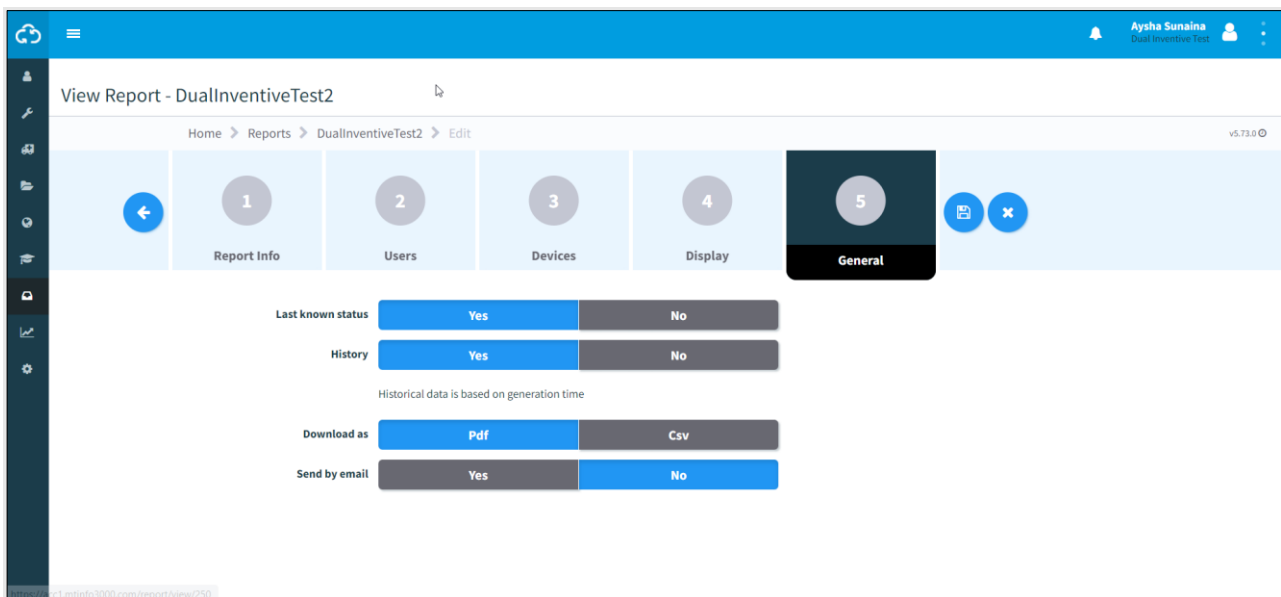

Figure 78 View report - General
- Step 3 - General (Figure 78).